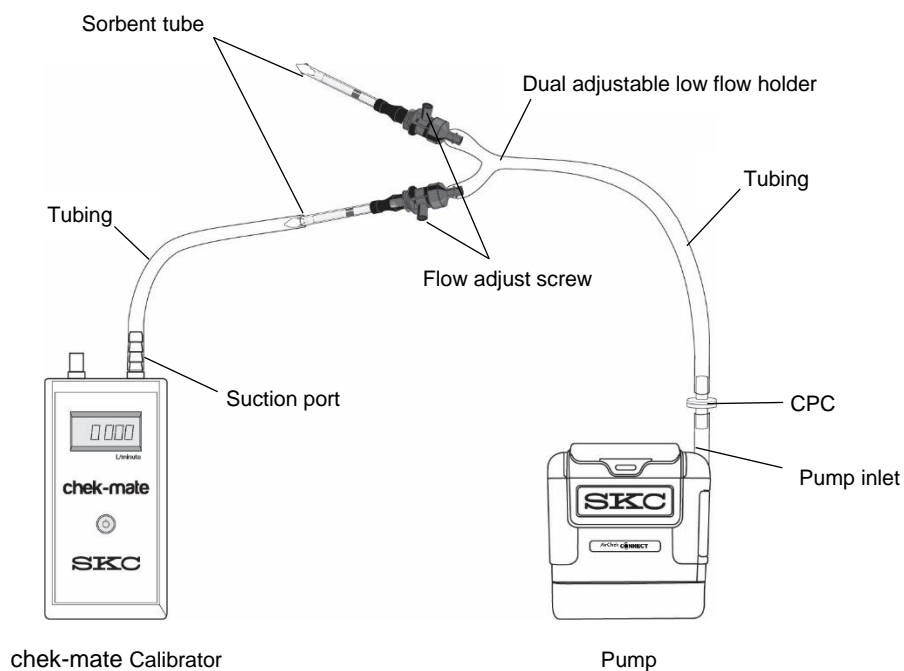

Figure 5. Calibration Train (5 to 500 ml/min) for Multiple Tubes — Constant Flow
- Multiple-tube sampling can be done using a Constant Pressure Controller (CPC) (Figure 5) and a Dual, Tri, or Quad Adjustable Low Flow Tube Holder accessory. See CPC and Adjustable Low Flow Tube Holder operating instructions for details on operation.
1. On the tube holder, insert an opened representative sorbent tube (arrow on tube pointing toward the pump) into the rubber sleeve on the port. Repeat for the desired number of tube samples. See *Figure 5*.